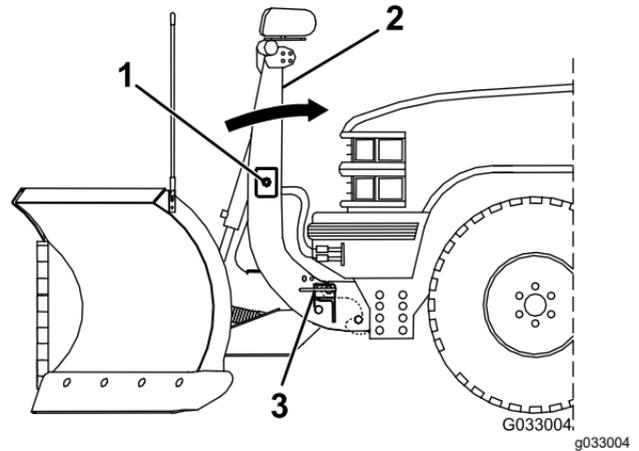

Figure 25
6. Push the SmartHitch2 switch on the side of the coupler tower upward and raise the tower until the spring pins lock in (Figure 25).